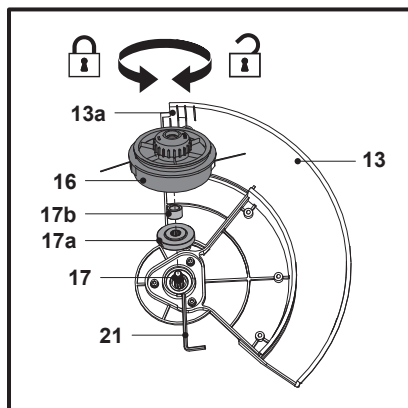

Fig. 9
1. Make sure the trimmer guard (13) has been attached properly.
2. Make sure the inner bushing (17a) and the backing flange (17b) has been fitted on the spindle (17) properly.
3. Rotate the backing flange (17b) until its hole is aligned with the notch in the gear head (15).
4. Insert the bigger end of multi-tool (21) into the hole to lock the spindle (17).
5. Screw the trimmer head (16) onto the spindle (17) and tighten it in anticlockwise by hand (Fig. 9).
6. Remove the multi-tool (21).